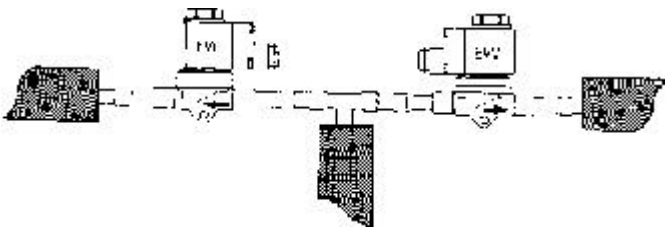

Figure 8
- 1) Refrigeration Solenoid Valves – These valves are located behind the front panel. These valves are used to control the flow of refrigerant to the cylinders or mix storage tanks. These valves are designated with EVC for each cylinder and EVV for the mix storage tank. (Refer to Figure 8)